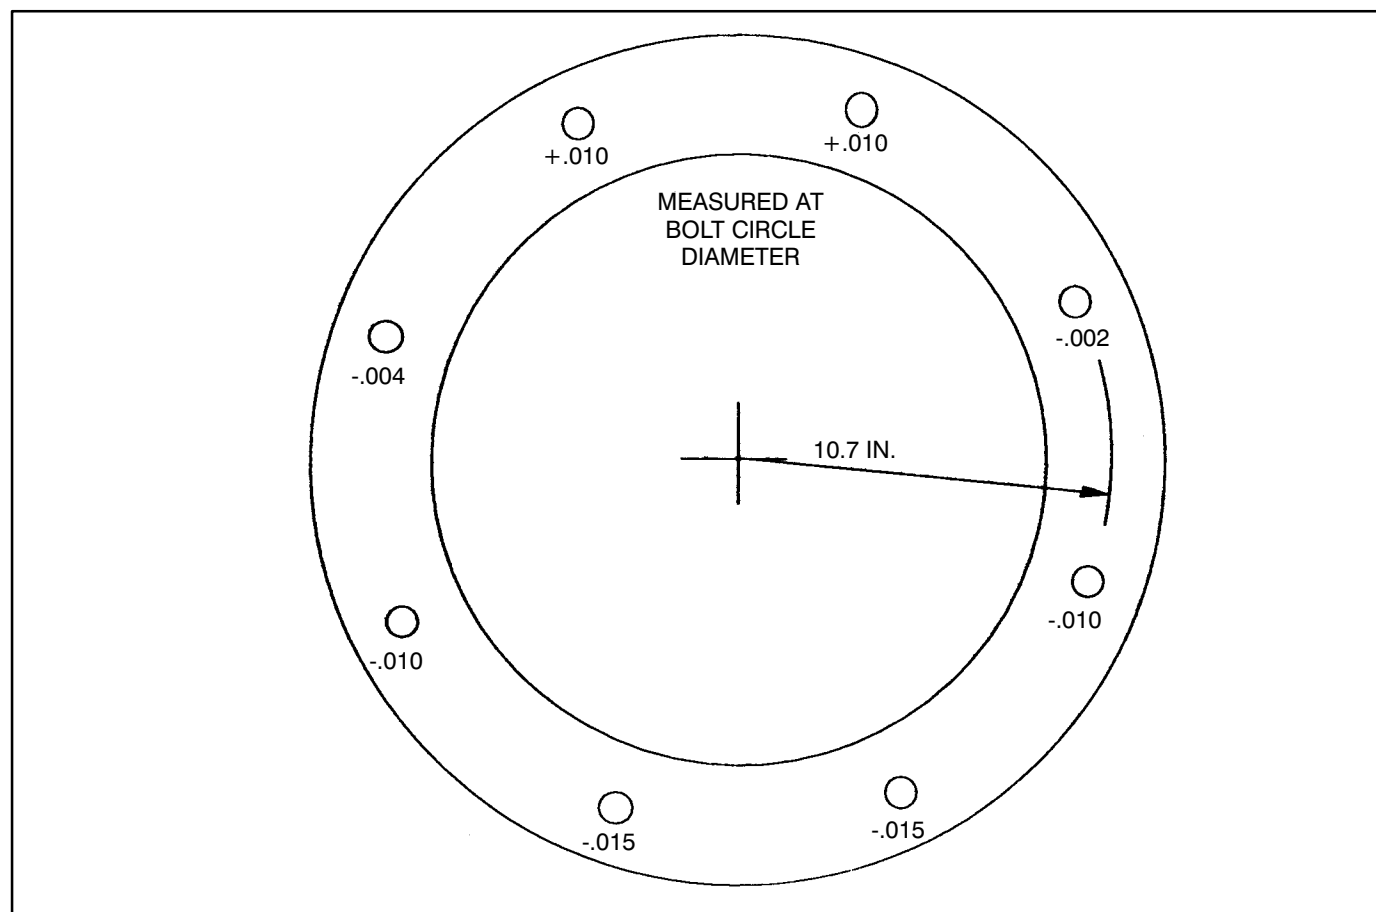

FIGURE 7-15. ANGULAR ALIGNMENT MEASUREMENT READINGS (Example)
**Sample Generator Runout Readings:** When taking the deflection readings described, make a diagram similar to the example shown in Figure 7-15, where a total indicator reading of .025". (The highest positive value of +.010 and the largest negative value of -.015".) The indicator is closer to the top and further away at the bottom. This example indicates that the generator bearing is high. Since the side readings are equal, the generator is centered side to side. To lower the generator, remove equal